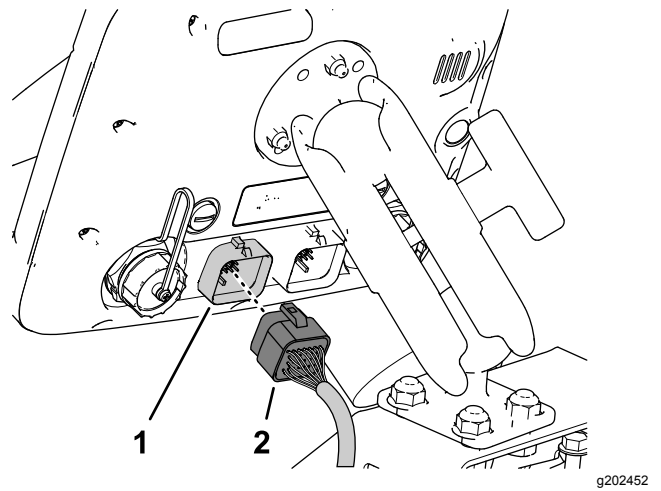

Figure 205
3. Align the 26-socket connector of the data harness with the 26-pin connector of the sprayer monitor and press the socket connector into the pin connector until the latch of the connector snaps securely (Figure 205).